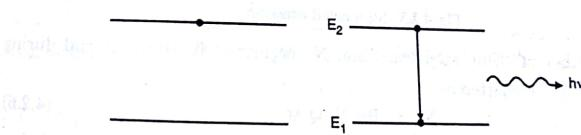

Fig. 4.2.2 : Natural or Spontaneous emission
- The excited atom in the state E_2 may return to the lower state E_1 on its own out of natural tendency to attain the minimum potential energy condition. During the transition the excess energy is released as a photon of energy $h\nu = E_2 - E_1$. This type of process in which photon emission occurs without any external agency is called spontaneous or natural emission. Fig. 4.2.2 represents natural emission and shows the transition.